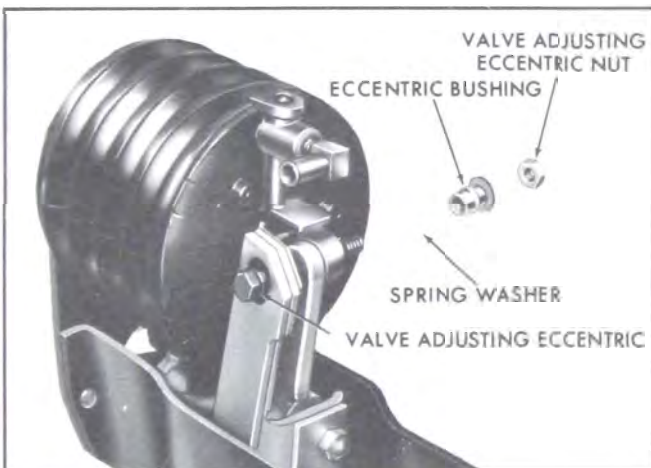

Figure 9-22—Removing Valve Actuating Eccentric
8. Install the spring washer over the spherical bushing, slide the assembly over the valve adjusting eccentric bolt and into the valve housing, then install the nut. (See Figure 9-22.)